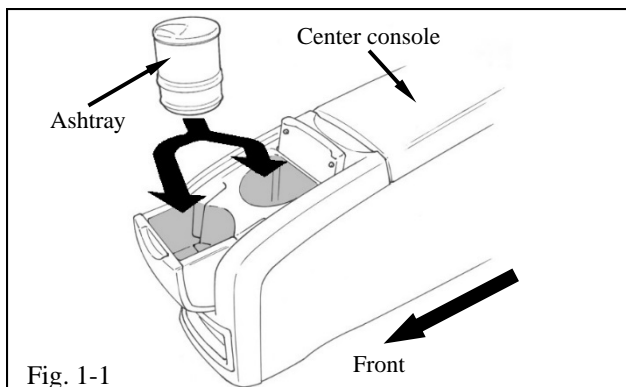

Fig. 1-1
- (a) Insert the ashtray into the front cup holder of the center console (Fig. 1-1).
- (a) Insert the ashtray into the front tray cup holder (Refer to Fig. 1-1).